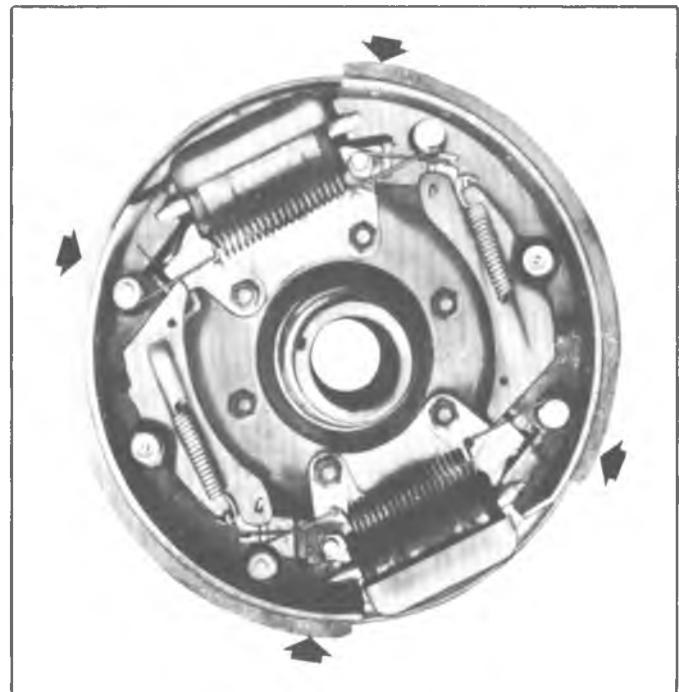

Fig. 79--Measuring Points for Shoe Centering
- Check the brake shoes for being centered by measuring the distance from the lining surface to the edge of the flange plate at the points shown in Figure 79. To center the shoes, tap the upper or lower end of the shoes with a plastic mallet until the distances at each end become equal.